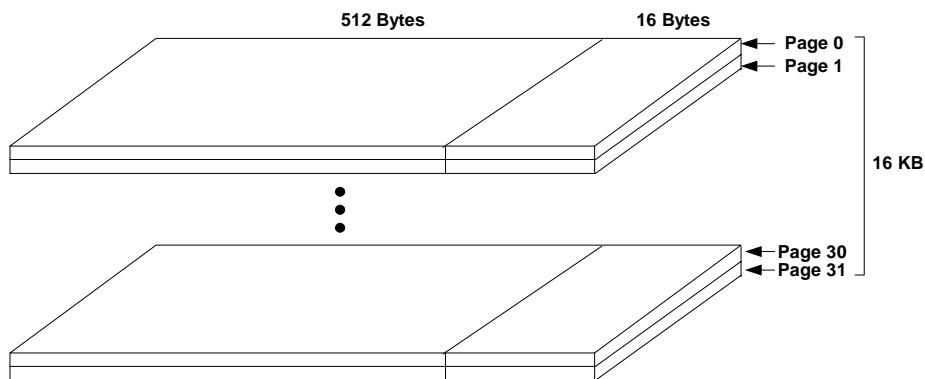

Figure 7: Block Structure
- **Block** – Each block contains 32 pages (total of 16KB), as shown in Figure 7. A block is the minimal unit that can be erased, and is sometimes referred to as an erase block.